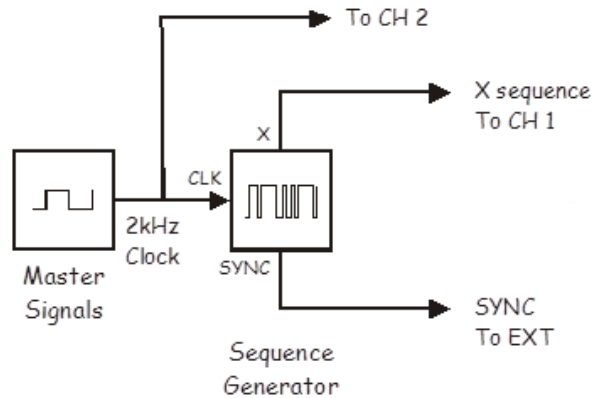

Figure 3: Generation of Random Bit Sequence
5. Next let us observe the random bit sequence generated at the X port. You may use the connections as in Figure 3.